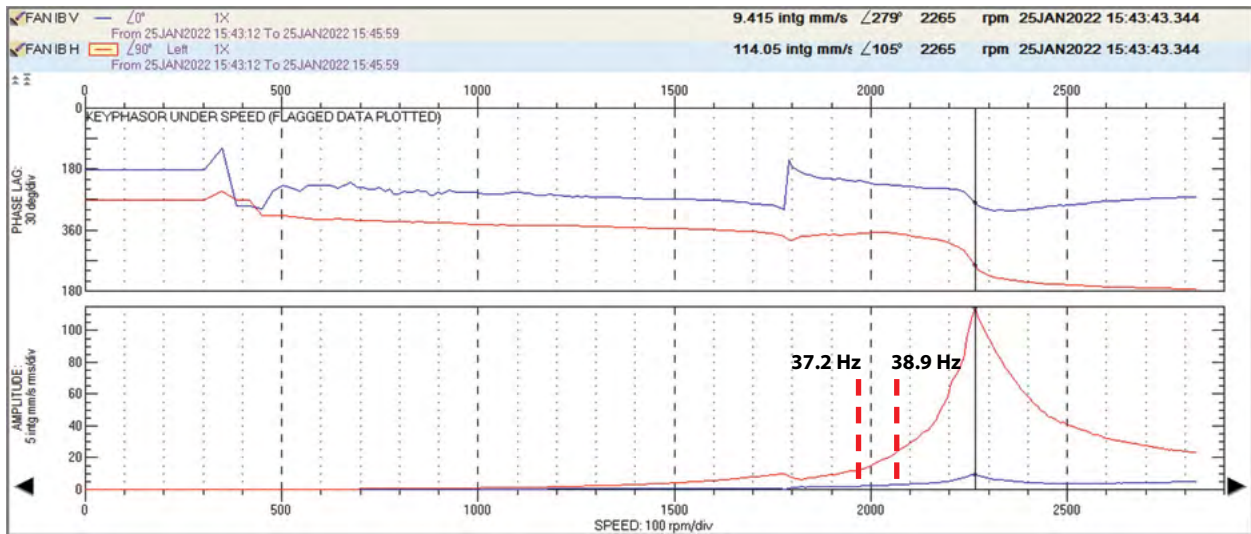

Figure 10: Break Fan IB Bearing Bode Plot during Emergency Drop
Figures 10 and 11 are the bode plot of the break fan at the IB and OB bearings, respectively. The data indicate a critical speed at about 2265 RPM. Calculating the Q-factor at the critical speed, gives an amplification factor (AF):